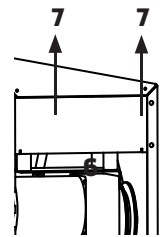

Fig 1B Motor - mounted on bracket
- 7 Unscrew the screws which retains the motor bracket on the rubber absorbers on the motor (Fig. 1B)